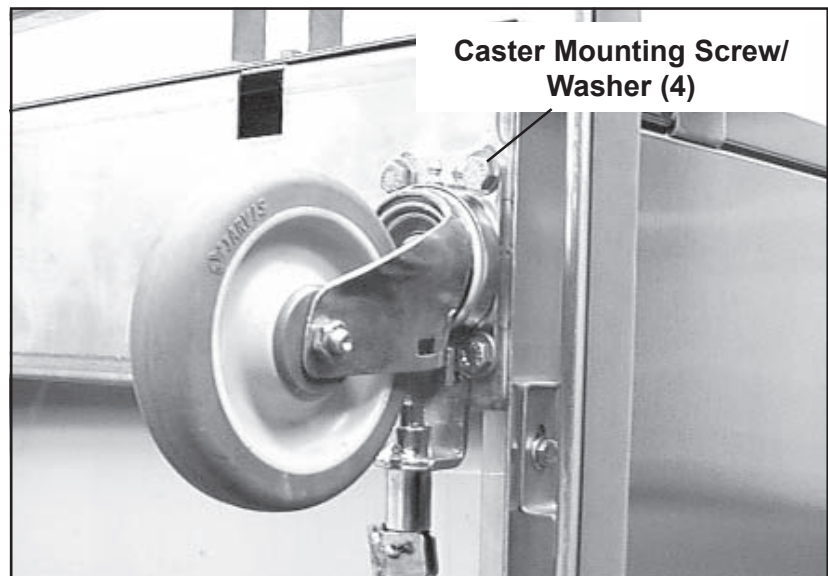

Figure 28. Caster Mounting Screws (4)
3. With a 1/2 in. wrench, remove the four mounting screws/washers on the caster base (Figure 28).